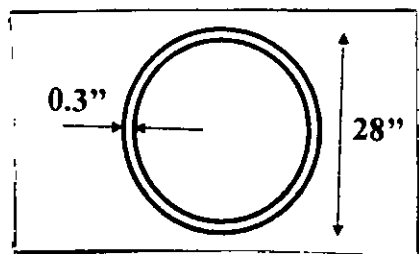

Figure 5
6. (a) A Concrete Filled Tubular (CFT) column section is shown in Figure 5. Check whether the geometric and material properties of the given section satisfy the limits specified by the AISC code. (8)